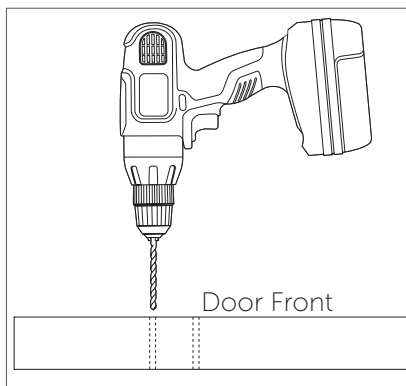

Figure 3
4. Drill two pilot holes all the way through the door for each hanger using a drill with an 1/8" drill bit. (Figure 3).